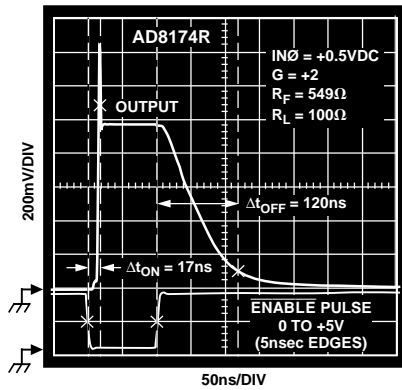

Figure 5. Enable and Disable Switching Characteristics
2AD8174 only. Shutdown (SD) pin is grounded.  $\overline{\text{ENABLE}}$  pin is driven with 0 V to +5 V pulse (5 ns rise and fall times). State of A0 and A1 logic inputs determines which channel is activated (i.e., if A0 = Logic 0 and A1 = Logic 1, then IN2 input is selected). Set IN0 (or IN2) = +0.5 V dc, IN1 (or IN3) = -0.5 V dc, and measure transition time from 50% of  $\overline{\text{ENABLE}}$  pulse (+2.5 V) to 90% of the total output voltage change. In Figure 5,  $\Delta t_{\text{OFF}}$  is the disable time,  $\Delta t_{\text{ON}}$  is the enable time.